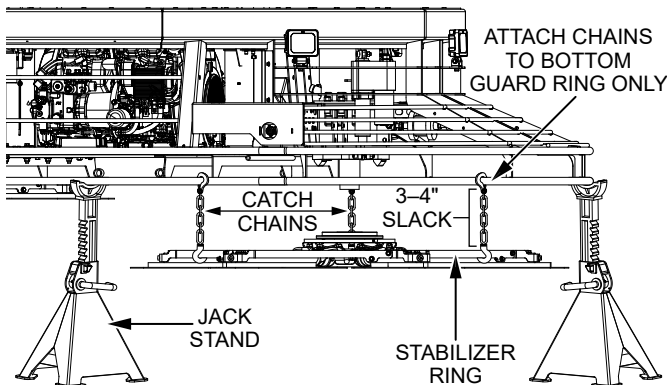

Figure 47. Preparation For Spider Removal
3. Place the trowel on **heavy-duty jack stands** (Figure 47) on secure, level ground in an area that is free of dirt and debris.
4. Attach one end of three equally spaced straps or **catch chains** to the **stabilizer ring** (Figure 47). Attach the other end of these straps or chains to the **bottom guard ring** in a manner that would prevent the spider assembly from falling.